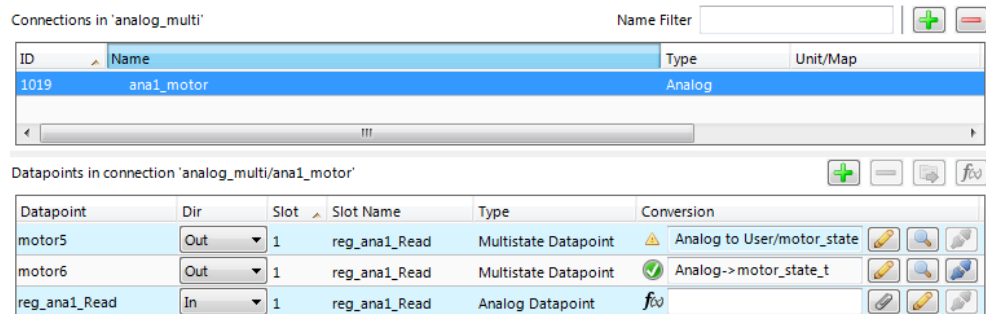

Figure 162: Connection tab with a connection and data points.
3. Now the connection tab contains the new connection and below the list of data points in that connection as shown in Figure 162.